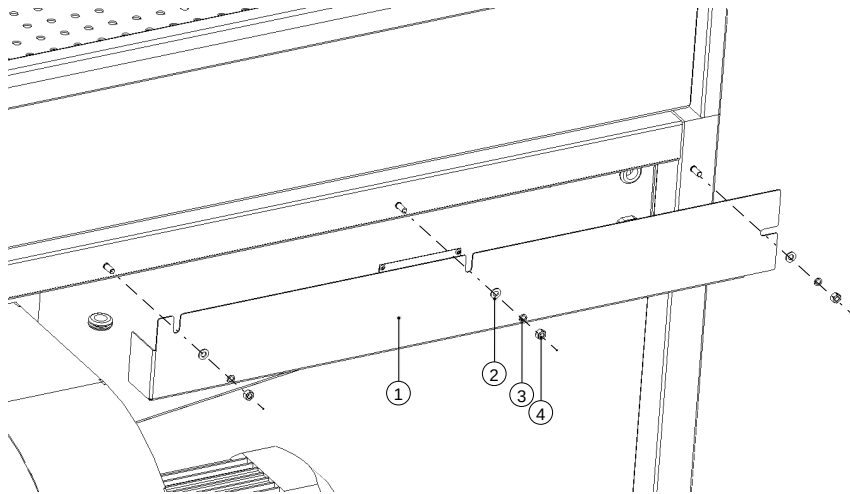

Figure 2: Cable shroud
6. Attach the cable protective shroud (1) using M5 Flat washer (2), M5 Spring washer (3), and M5 Nut (4), see Fig.2: